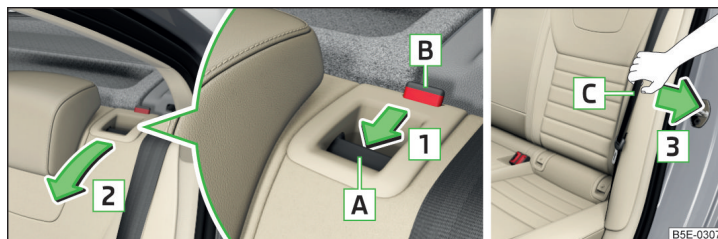

Fig. 76 Release seat rest and fold forwards/pull belt towards side trim panel
- Press the release lever **A** in the direction of arrow **1** » Fig. 76.
- Push the release handles **A** on both sides of the seat backrest in the direction of arrow **1** simultaneously » Fig. 76.
- Pull the rear outer seat belt **C** to the side panel in the direction of arrow **3** » Fig. 76.